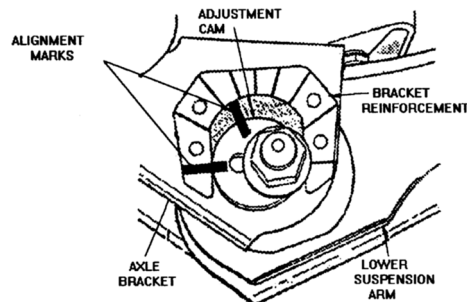

Figure 2
4. All ZJ and 1997 models TJ only: Mark the position of the alignment cam adjusters located at the end of each front lower control arm at the axle **Figure 2**.